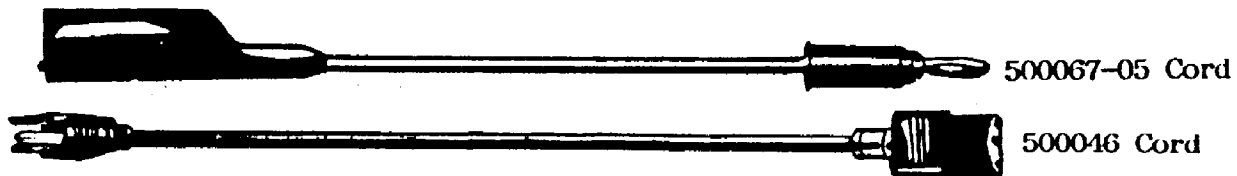

Figure 3. 51500 Power Cord and Case Leakage Test Cord.
| Power Cord (see Figure 3) | 500046 | 1 |
| *Case Leakage Cord (see Figure 3) | 500067-05 | 1 |
*Store this cord for use in Insulation Safety tests. Also note the cord configurations in Figure 3.